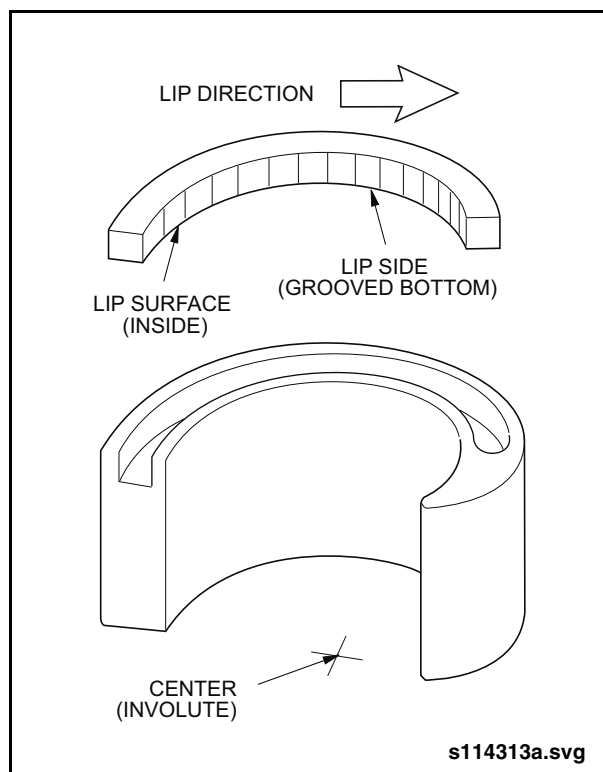

Fig. 6: Orbital Scroll Seal Installation
4. Insert tip seal with lip of the seal (grooved bottom) facing bottom of scroll seal groove. Ensure lip faces center of scroll. See “Fig. 6: Orbital Scroll Seal Installation” on page 6.